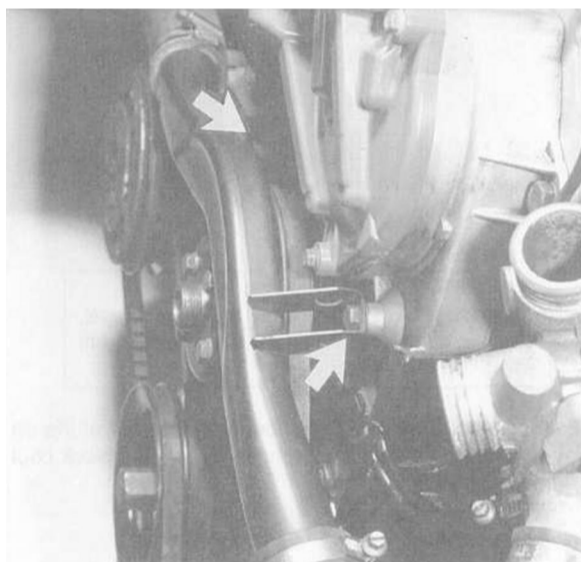

Fig. 8. Coolant cross-pipe mounting bolts (arrows)
4. Remove metal coolant cross pipe from front of engine. See Fig. 8.